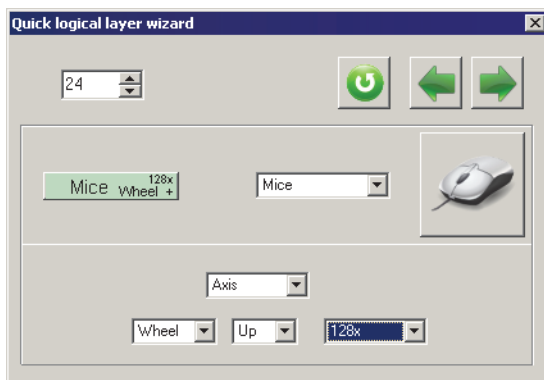

Fig. 5.10.
**Axis** item (Fig. 5.10) allows to control mouse axis using button. You can choose mouse axis — **X** or **Y**, or mouse **Wheel**. Assign direction — **Up** or **Down** and velocity multiplier. If multiplier is equal to zero, cursor autoacceleration will be used.